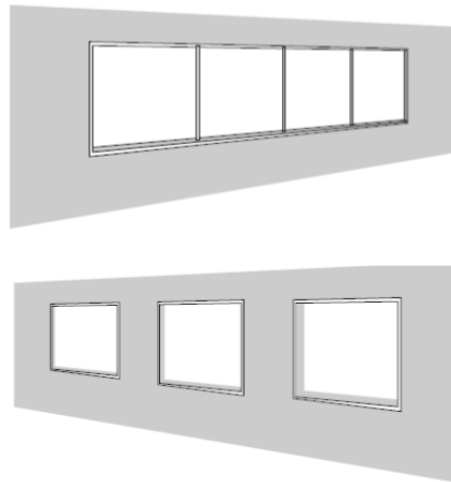

Figure 5: Strip windows are an easy way to provide uniform daylighting. Punched windows should be paired with work areas when possible.
- **Strip windows provide more uniform daylight.** The easiest way to provide adequate, even daylighting is with a nearly continuous strip window (Figure 5). Punched windows are acceptable, but the breaks between windows can create contrasts of light and dark areas. This is not a problem if work areas are paired with windows or if other glare measures, such as splayed window openings, are taken.